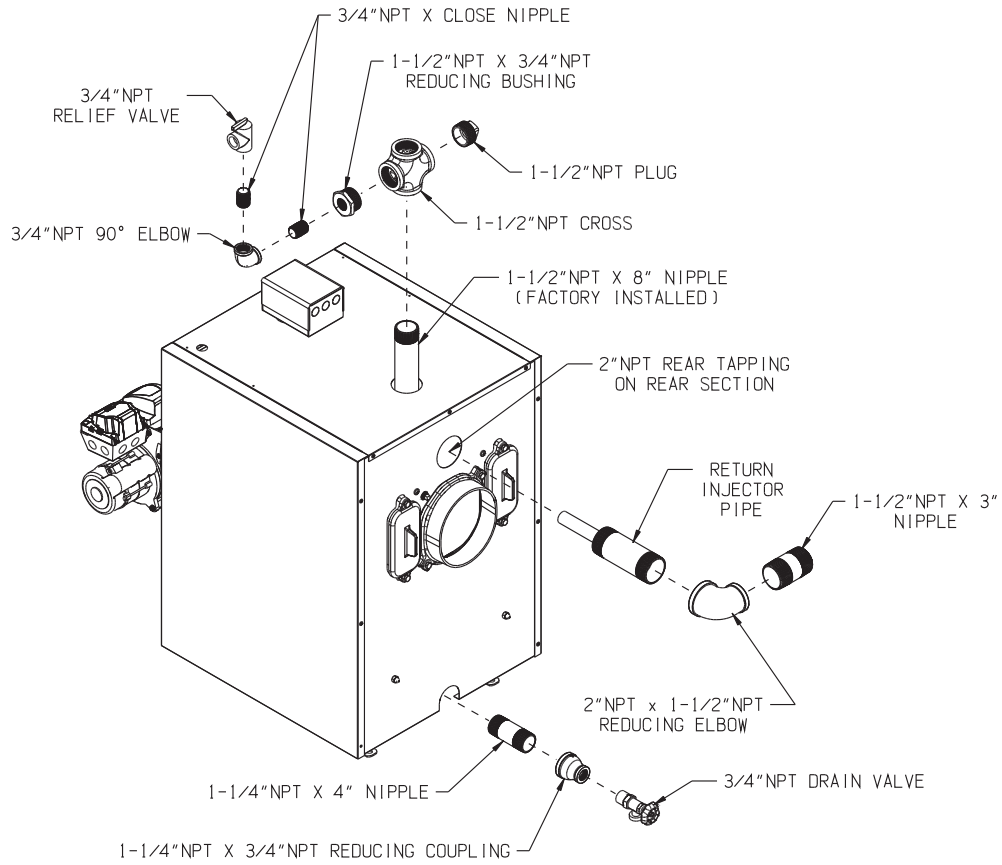

FIGURE 8.1: INSTALLATION OF FACTORY SUPPLIED PIPING
- 1) Relief valve (Required) - Mount the relief valve on the rear of the boiler as shown in Figure 8.1 using the fittings provided. The relief valve shipped with the boiler is set to open at 30 psi. This valve may be replaced with one having a pressure up to the “Maximum Allowable Working Pressure” shown on the rating plate. If the valve is replaced, the replacement must have a relief capacity in excess of the heating capacity for the boiler.
- 2) Return Injector Pipe - The return injector distributes water evenly throughout the heat exchanger and also helps to minimize the possibility of thermal shock. Install it in the upper-rear tapping as shown in Figure 8.1. The 2 x 1-1/2” reducing elbow can be oriented in any direction.
- 11) Drain Valve - The drain valve is shipped in the boiler parts bag. Install it in the bottom-rear of the boiler return as shown in Figure 8.1.